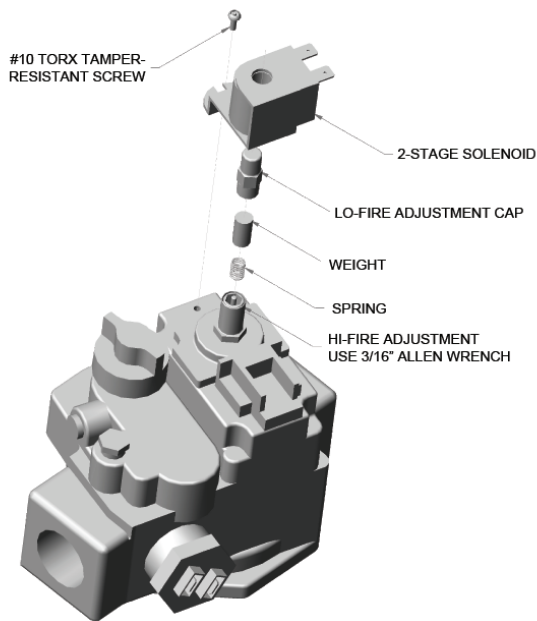

Figure 37. Gas Valve Adjustment (Invensys Valve)
2. Locate and remove the Torx tamper resistant screw. (Shown in **Figure 37**)